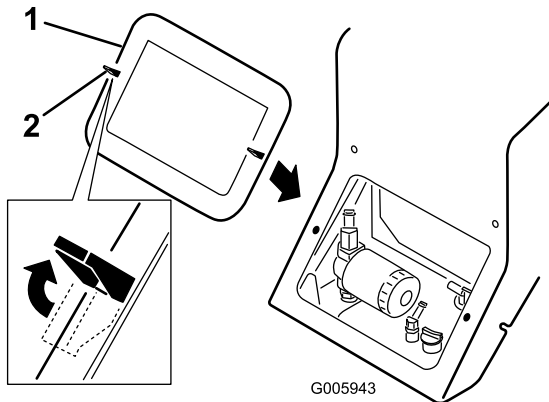

Figure 24
3. Release the two locking tabs (Figure 24, top, left tab illustrated).